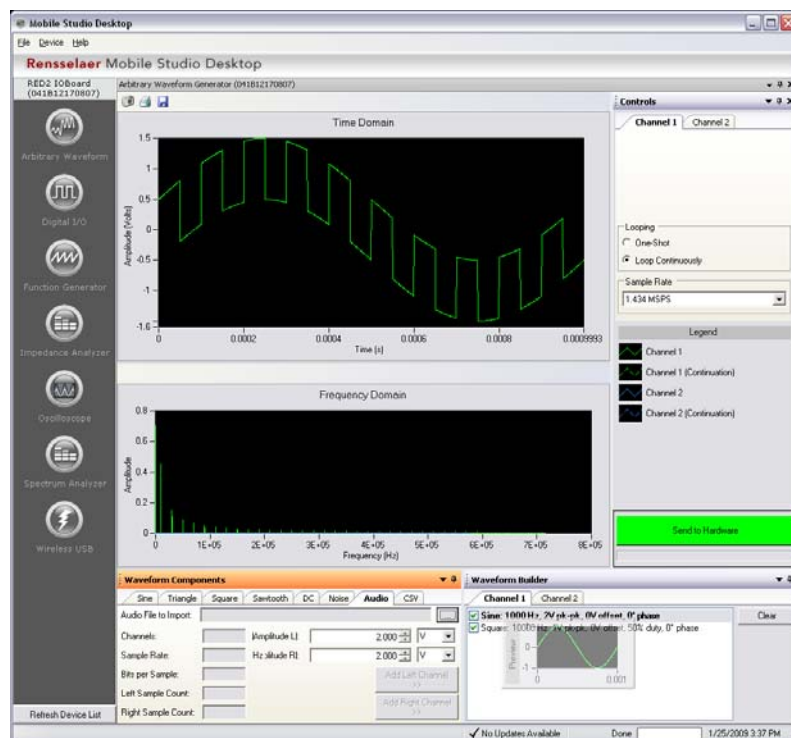

Figure 3.2: Multiple Waveforms in the Arbitrary Waveform Generator
- 5) Multiple signals can be added on the same channel and the resulting signal combination is displayed when the signals are selected in the checkbox in the Waveform Builder, shown in Figure 3.2 below.